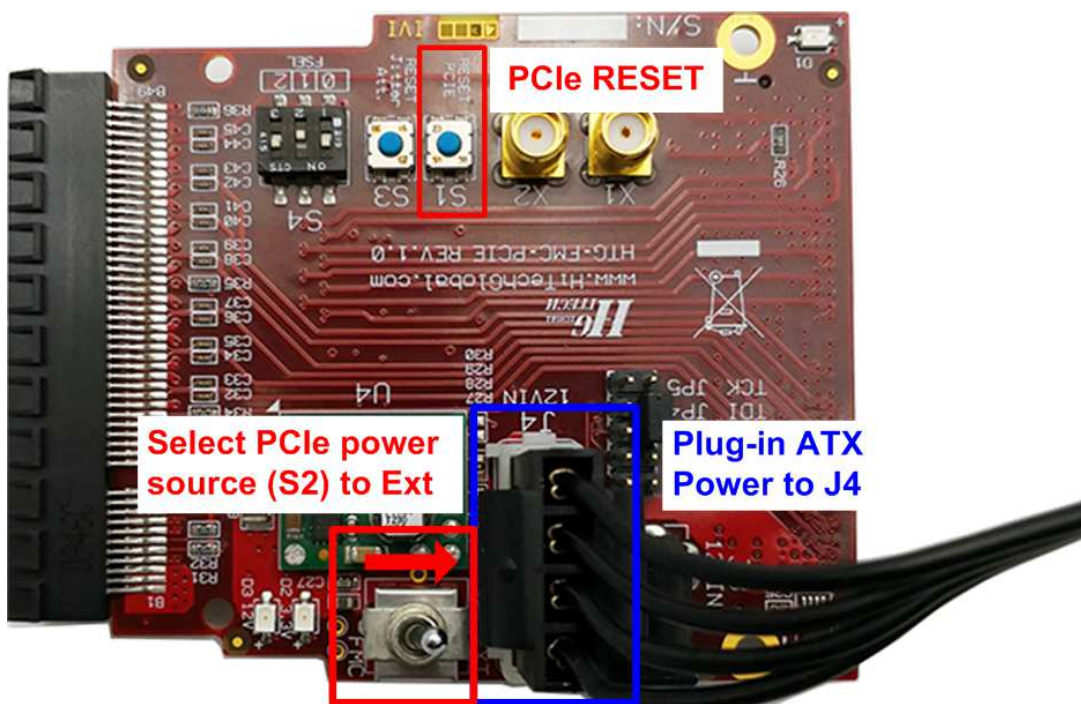

Figure 2-2 Set up power on FMC-to-PCIe card
- 3) Connect ATX power cable to J4 on FMC-to-PCIe card and select power source of FMC (S2) to Ext (external power), as shown in Figure 2-2